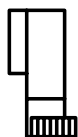

Figure 33. Maximum number of sample vials with one waste bottle and a 10- μ l syringe
3. Go to the **W** table in Figure 33. In the left-hand column, find the number of solvent wastes and sample washes you need.
3. Go to the **W** table in Figure 33. In the left-hand column, find the number of solvent and sample washes you need, **answer (7)**.
4. Read across this row to the column indicating the number of injections you are making from each vial, **answer (2)**.